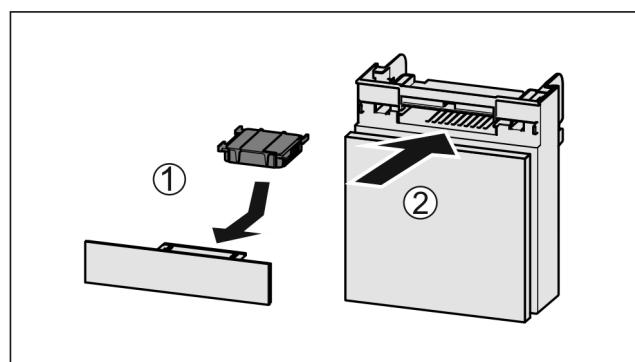

Fig. 178
- ▶ Insert the carbon filter as shown in the diagram Fig. 178 (1).
- ▶ Push the compartment in Fig. 178 (2).